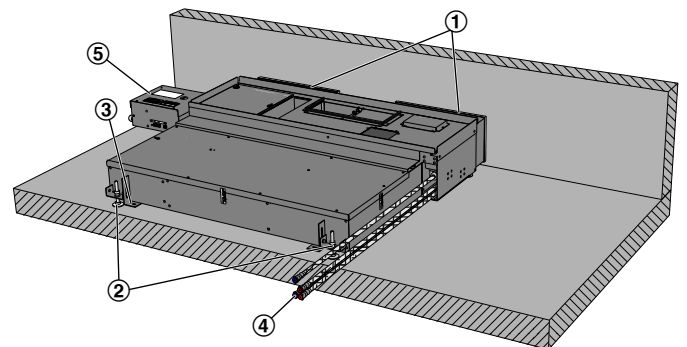

Fig. 5: Installing the unit, FSL-U-ZAS, right side construction (example)
1. ▶ Place the unit with the air openings (Fig. 5/1) in front of the wall.
Align the air openings of the unit with the openings in the wall; if necessary, adjust the feet accordingly (Fig. 5/2). Secure the feet by tightening the nuts. Push the unit slightly towards the wall such that the seals become slightly compressed and the unit is tightly attached to the wall openings.
2. ▶ Then use suitable screws (Ø 6 mm) to fix the unit through the fixing brackets (Fig. 5/3) to the floor.
3. ▶ Connect the water pipes (Fig. 5/4) (flexible hoses are available as an option), ↻ 15; apply pressure to check for leakages.
4. ▶ Connect the electrical cables to the control equipment box (Fig. 5/5), ↻ 16, then carry out a functional test.